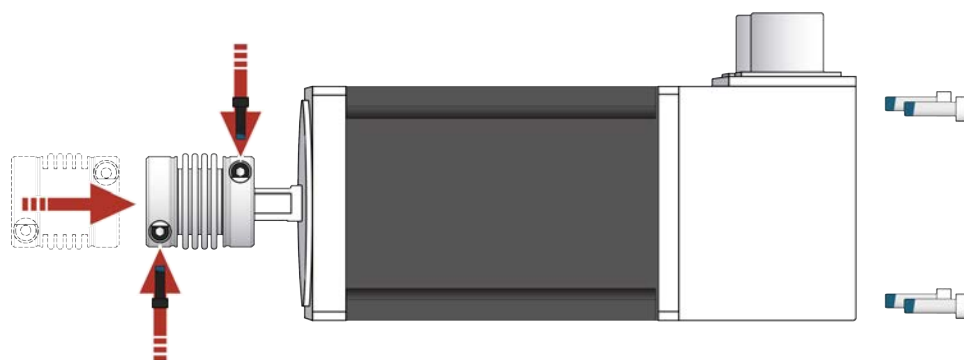

**Figure 4-4: Motor Mounting Overview**
**IMPORTANT:** Use Loctite 242 or Loctite 248 on the motor and coupling adapter hardware (Figure 4-4). Loctite products are printed with an expiration date. Before use, be sure that the expiration date is legible and the product has not expired.
2. Locate the Shaft Coupling access holes (refer to Figure 4-4).